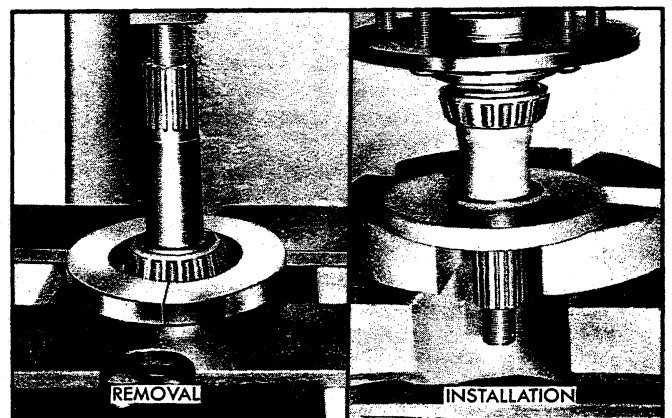

Fig. 50—Removing and Installing Drive Spindle Outer Bearing (Corvette)
- b. Position Tool J-8331 and spindle in an arbor press and press bearing from spindle (fig. 50).
- e. Press bearing on spindle using a bearing spacer and Tool J-9436 as installers, as shown in Figure 50.